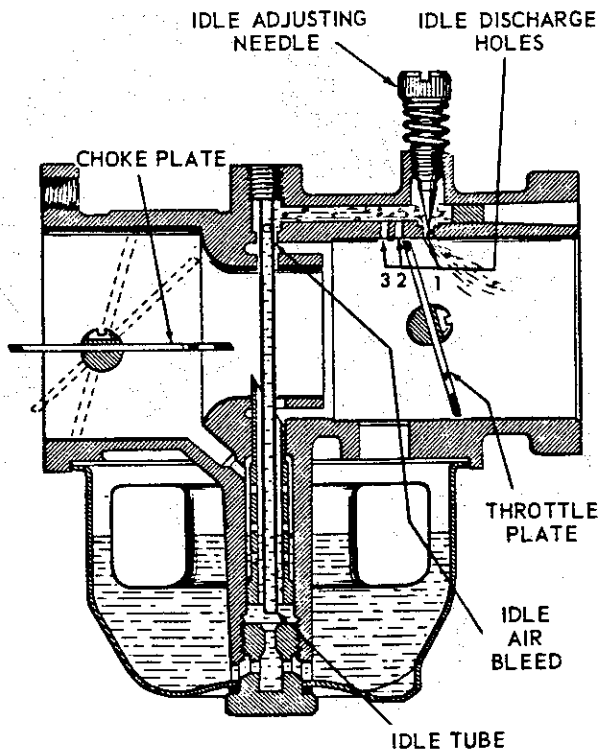

Fig. 2 IDLE AND CHOKE SYSTEMS
IDLE SYSTEM (Fig. 2)
CHOKE SYSTEM (Fig. 2)
1. Slide throttle shaft and lever (23) into seal retainer (3) and seal (2). Insert shaft into throttle shaft hole at manifold end of throttle body (1). Seat shaft in hole on opposite side of throttle bore and press seal and retainer firmly against shaft hole boss.
2. Rotate throttle lever so flat center section faces out manifold opening. Install throttle plate (13) with screws (14), using small screwdriver.
3. Slide choke shaft and lever (15) into choke shaft hole and seat in hole on opposite side of air intake bore.
4. Rotate choke shaft so flat center section faces out intake opening. Install choke plate (16) with screws (17), using small screwdriver.
5. Lay throttle body down with fuel bowl side up and install bowl to body gasket (11).
6. Install washer (21) and fuel valve seat (part of 20). Use large screwdriver to tighten seat to 100 in-lbs. Insert valve, spring and pin (parts of 20) into seat.
7. Install float (9) and float axle (10) on support brackets of throttle body. Check operation of the float to be sure the hinge and axle do not bind and that the float moves in a perpendicular direction.
8. Install throttle stop screw (7) and spring (8). Adjust screw to open throttle slightly but not far enough to uncover #2 idle discharge hole, see Fig. 2.
9. Install idle adjusting needle (5) and spring (6). Screw needle IN (clockwise) until it seats lightly against the #1 idle discharge hole, then back it out 1½ turns as a preliminary idle adjustment.